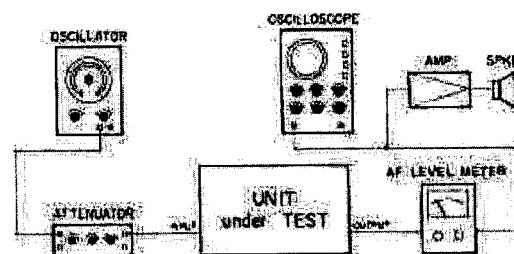

Fig. 9-7-9. Level or Frequency Response Measurement Set-up.
1. Connect the test equipment to CH1 INPUT and CH1 OUTPUT as shown in Fig. 9-7-9.